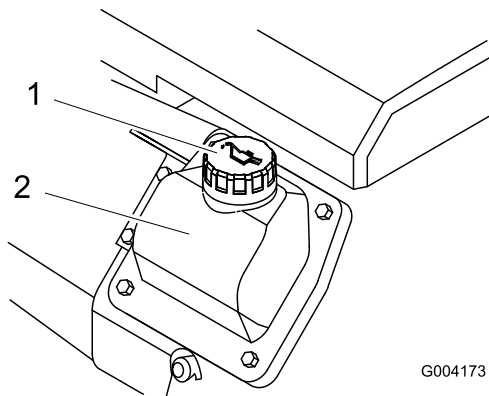

Figure 16
8. If the oil level is low, clean around the oil filler cap and remove the cap (Figure 16).